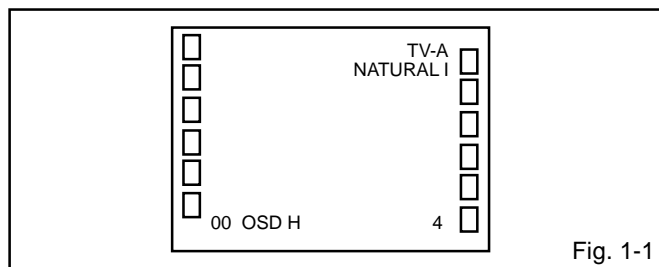

Fig. 1-1
2. Press the VOL. DOWN button on the set and the Channel button **(9)** on the remote control for more than 2 seconds to appear the adjustment mode on the screen as shown in **Fig. 1-1**.
4. Activate the adjustment mode display of **Fig. 1-1** and press the channel button **(01)** on the remote control to select "CUT OFF".
4. Activate the adjustment mode display of **Fig. 1-1** and press the channel button **(24)** on the remote control to select "R.BIAS".
6. Adjust the VOL. UP/DOWN button on the remote control to whiten the R.BIAS, G.BIAS, B.BIAS, R.DRV, B.DRV, R.BIAS(C), G.BIAS(C), B.BIAS(C), R.DRV(C), B.DRV(C), R.BIAS(W), G.BIAS(W), B.BIAS(W), R.DRV(W) and B.DRV(W) at each step tone sections equally.
4. Activate the adjustment mode display of Fig. 1-1 and press the channel button (**43**) on the remote control to select "BRI CENT".
2. Activate the adjustment mode display of Fig. 1-1 and press the channel button (**52**) on the remote control to select "SUB CONT".
6. Activate the adjustment mode display of Fig. 1-1 and press the channel button (**02**) on the remote control to select "H.POSI".
9. Activate the adjustment mode display of Fig. 1-1 and press the channel button (**04**) on the remote control to select "H. SIZE".
7. Activate the adjustment mode display of Fig. 1-1 and press the channel button (**11**) on the remote control to select "V. CENT".
10. Activate the adjustment mode display of Fig. 1-1 and press the channel button (**05**) on the remote control to select "V. SIZE".
4. Activate the adjustment mode display of **Fig. 1-1** and press the channel button **(15)** on the remote control to select "EW PARA".